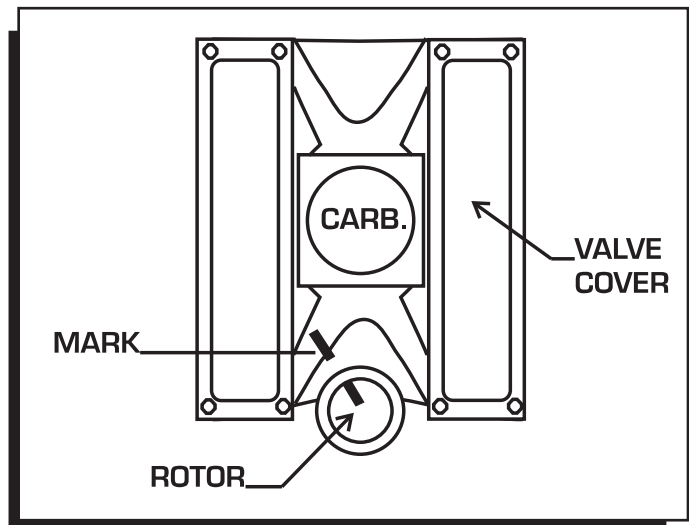

Figure 8 Marking the Rotor Location.
5. Rotate the shaft 180° and insert the advance stop bushing pin into the small hole on the advance plate (Figure 8).
2. With the cap off, crank the engine until the rotor is aimed at a fixed point on the engine or firewall. Note this position by making a mark (Figure 8).